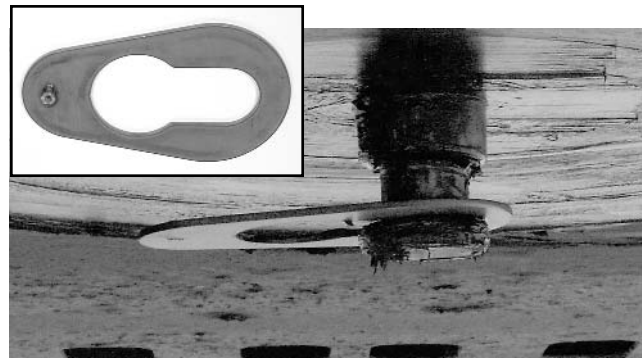

Figure 14. Kingpin adapter
If this sightline is free from under-trailer obstructions that would interfere with a measurement (i.e., landing legs, trailer frame, tool boxes, etc.), then the kingpin adapter (figure 14) can be used to make the measurement in step five.
2. Place the kingpin adapter (figure 14) or kingpin extender (figure 15) onto the kingpin.